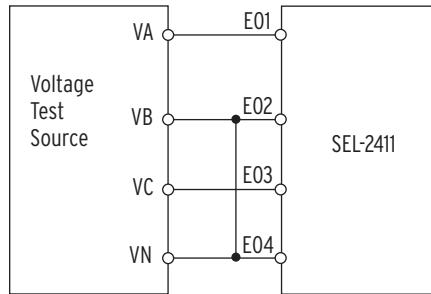

Figure 10.7 Delta Voltage Source Connections
Step 2. Connect the voltage source to the device as shown in *Figure 10.7*.